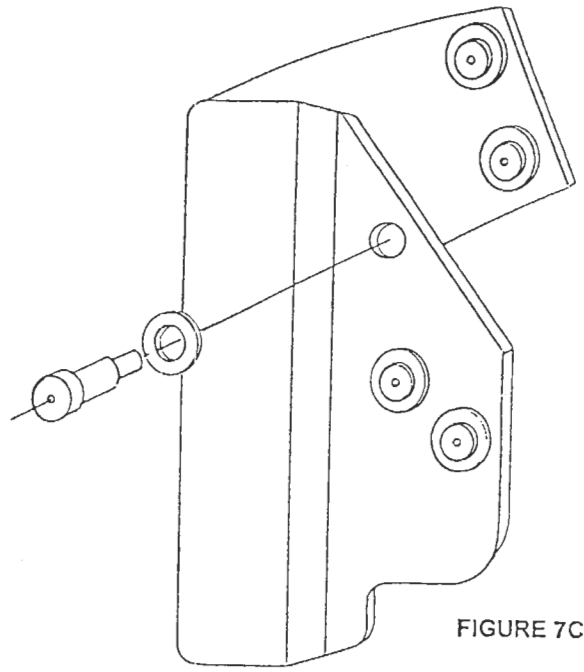
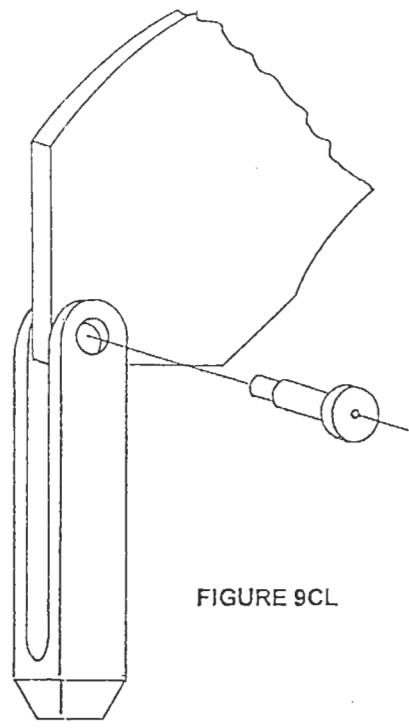

FIGURE 7CL
FIGURE 9CL
Unpack the carton marked "Lift Kit", it will contain one left, and one right compression lift assembly. Each assembly is complete and ready for installation. The hinge plate is attached with shoulder bolt to lift housing plate (**Figure 7CL** page 6CL), and yoke (**Figure 9CL** page 6CL). These shoulder bolts should be double checked for secure fit before installation, but they are pre-assembled at the factory. **Figures 11 and 12** show installation of left side (facing towards the front of the bed) compression lift assembly. Mount both left and right lift housing assemblies to the couch in holes provided using 2 - 3/8" Allen head bolts. **Note: each bolt will require two (2) washers.**